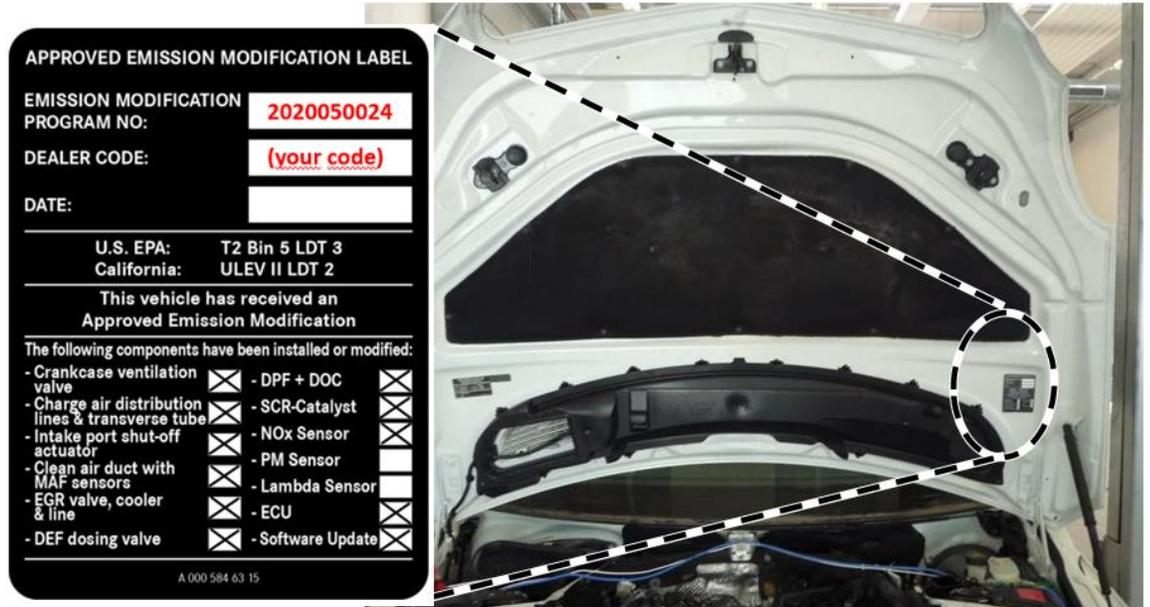

Figure 6
12. Clean the bonding surface of the hood and attach the adhesive label (A 000 584 63 15) **(Figure 6)**.
i The fields on the adhesive label must be filled out correctly. Please use black permanent marker. Refer to **(Figure 6)** within the XENTRY procedure.